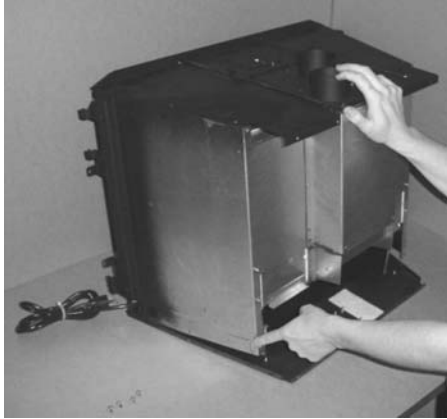
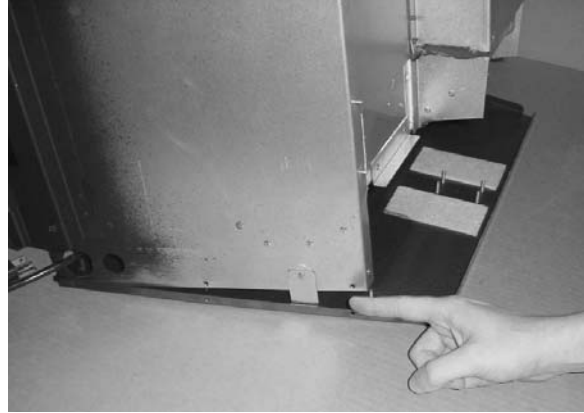

Figure 4
Figure 5
- 3 The baseplate is attached to the insert with two rivets at the front. By pushing on the top of the insert you can tilt the insert upwards, allowing for better access to the area under the insert (see Figure 4). A bracket is provided on both sides to prop the insert up (see Figure 5). Rotate these bracket down.